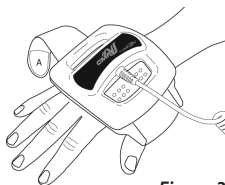

Figure 3
5. Place hand/wrist on a stable surface with the palm facing down (Figure 3)